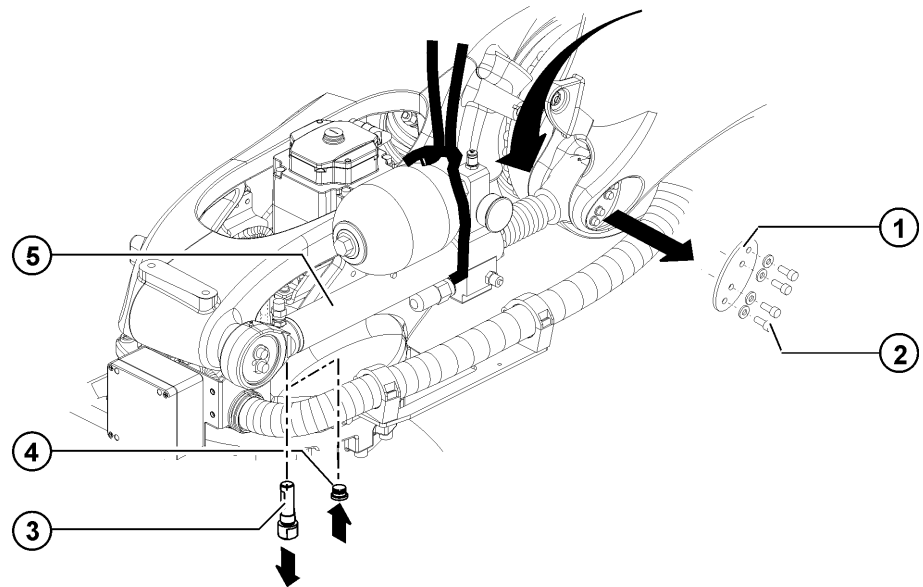

Fig. 11-26: Installing the counterbalancing system: link arm
19. Move the link arm in the plus direction until the locking pin is released, and unscrew the locking pin (>>> Fig. 11-26).